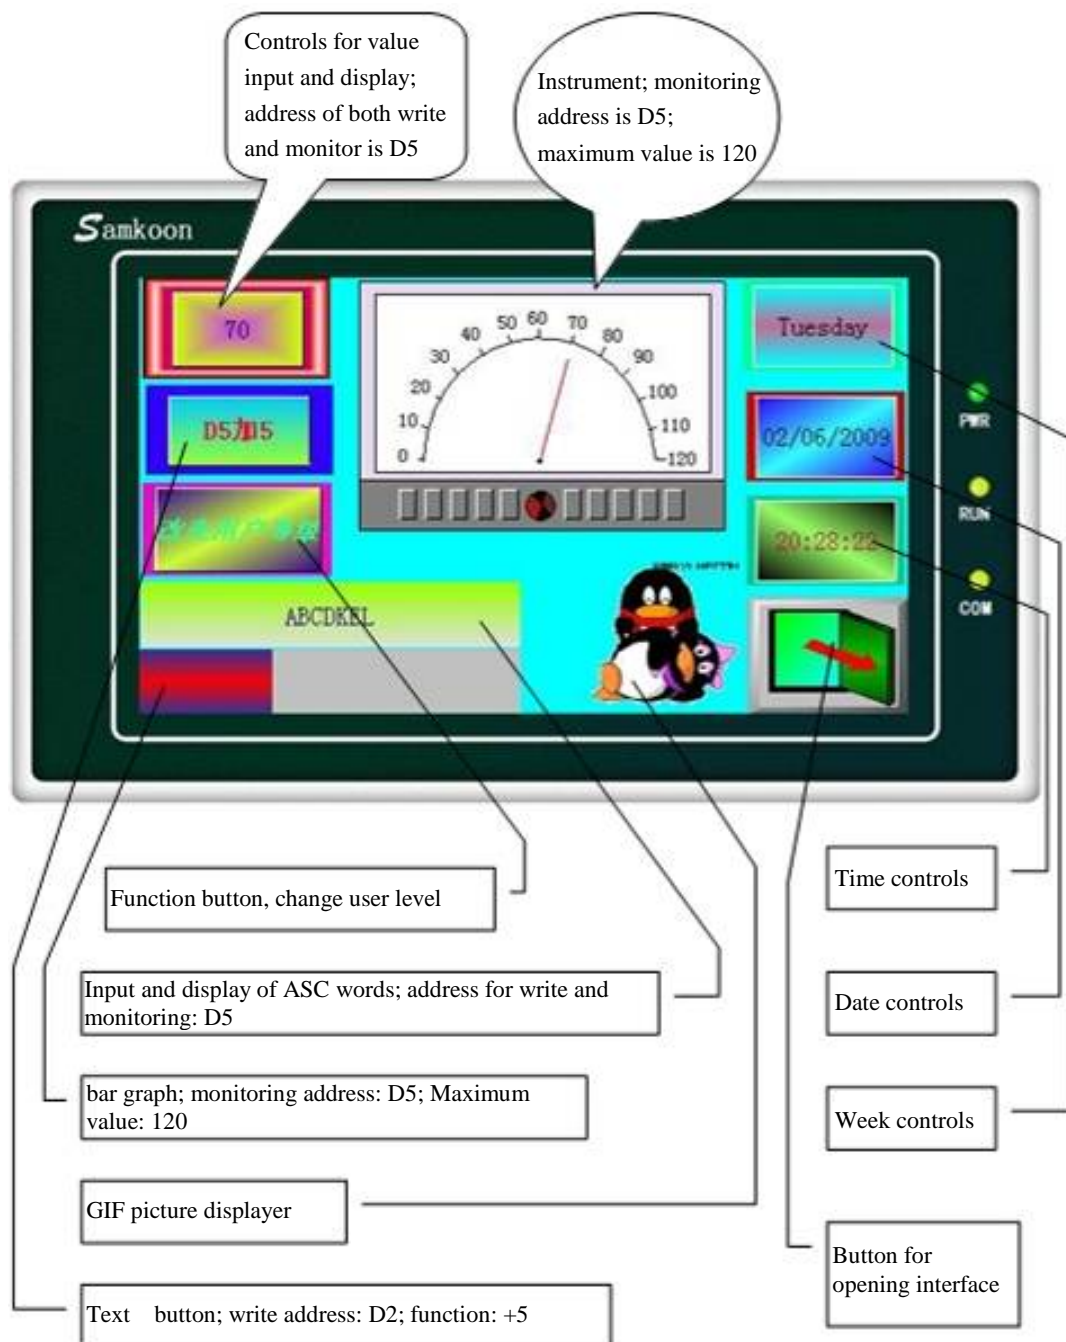

Figure 6-2 Example of TGI SK43AS/B off-line simulation
As shown in figure 6-2 below, you can carry out the off-line simulation of edited configuration. Use mouse to click value display and input. It can be seen that pointer of instrument panel points to 70 if you enter 70. The project designer can better check and find some problems in project configuration screen through off-line simulation, such as the correctness of selected monitoring address and relationship between controls, to ensure good preparations.
- ✓ Click “Save” to save the project. Then, select “Off-line Simulation” in option “Download” in menu bar to pop up a screen as shown in figure 6-2. The introduction of off-line simulation example ends.